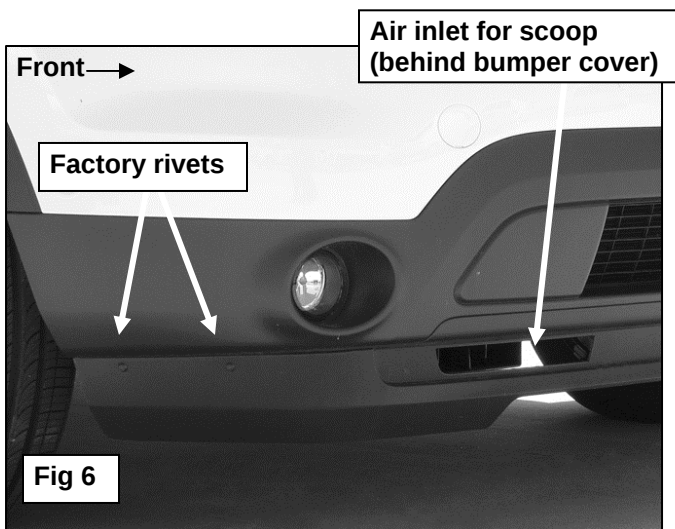

Fig 6
- b. Vehicles equipped with air inlet, (Figure 6):** Repeat **Step 2** to install the 12mm Bolt Plate and 12mm Nut Plate. Hold the Frame Bracket in the approximate position over the Bolt and Nut Plates. Mark the outline of the Bracket onto the mounting tab on the plastic air inlet, (scoop), **(Figure 7)**. Remove the inlet and place it on a clean, stable work surface. Use a hacksaw to cut the required material from the mounting area on the inlet. Check the fit often and trim material away as necessary. Do not cut off the mounting tab. Carefully pry off the metal clip and move it as indicated in **Figure 7** or drill a 1/4" hole through the top and bottom of the scoop and replace the clip with the included (1) 5mm x 25mm Screw, (2) 5mm Flat Washers and (1) 5mm Nylon Lock Nut. Do not over-tighten 5mm hardware. **IMPORTANT!** Any cutting tool may break or shatter. Government regulations require safety glasses & equipment at all times when cutting. Install the Frame Bracket as described in **Step 3**. **NOTE:** Complete the Grille Guard installation before reinstalling the plastic air inlet scoop, **(Step 15)**.
NOTE: Before proceeding, it may be considerably easier to remove the plastic bumper cover to cut the slots for the Grille Guard. However, the bumper cover may be held in place with rivets making removal and reinstallation very difficult, **(Figure 6)**. Determine if the bumper is held in place with rivets, (visible from the outside-below the fog lights), before attempting to remove the bumper cover.